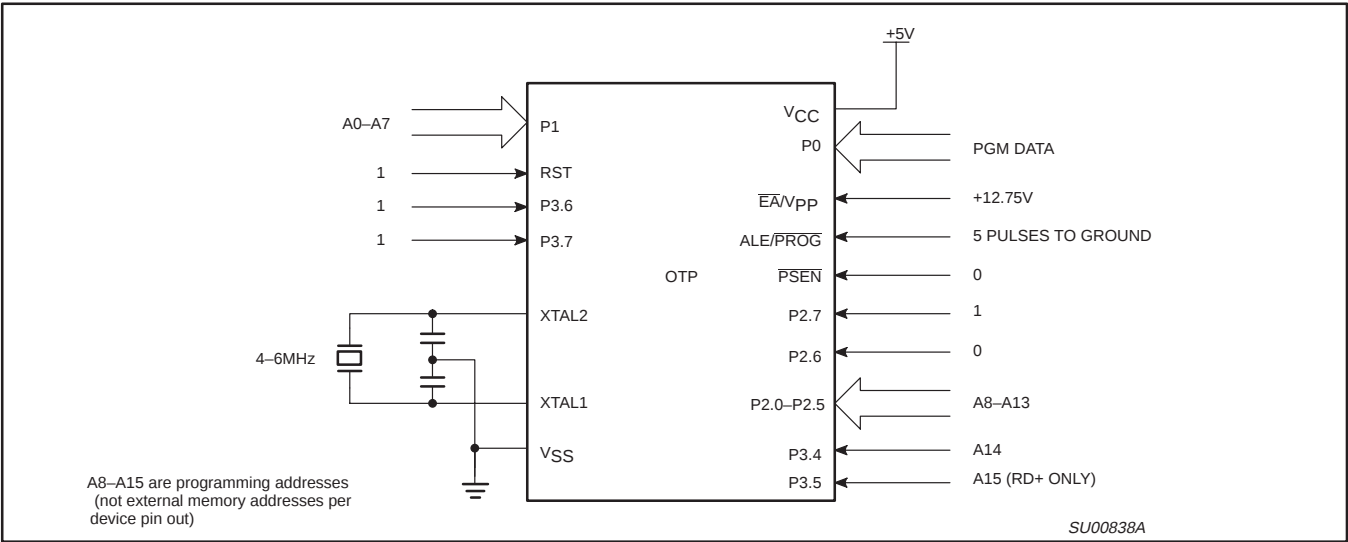
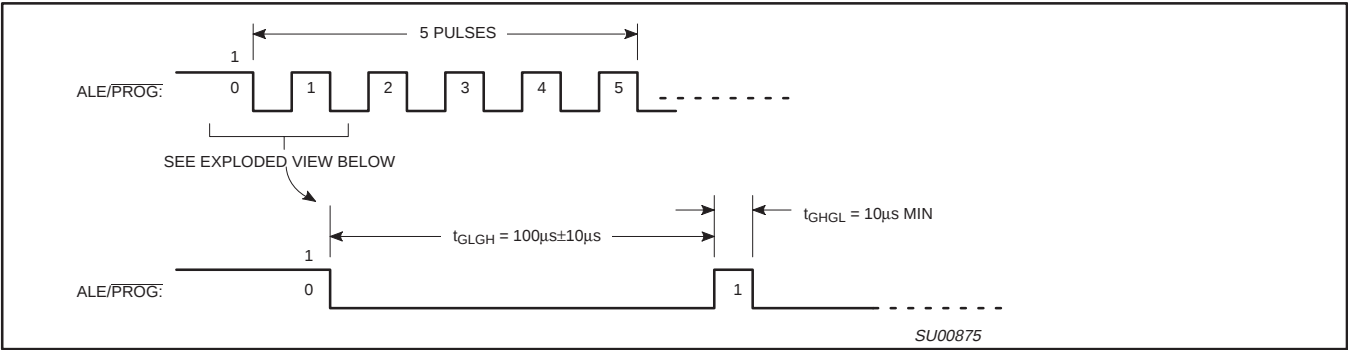
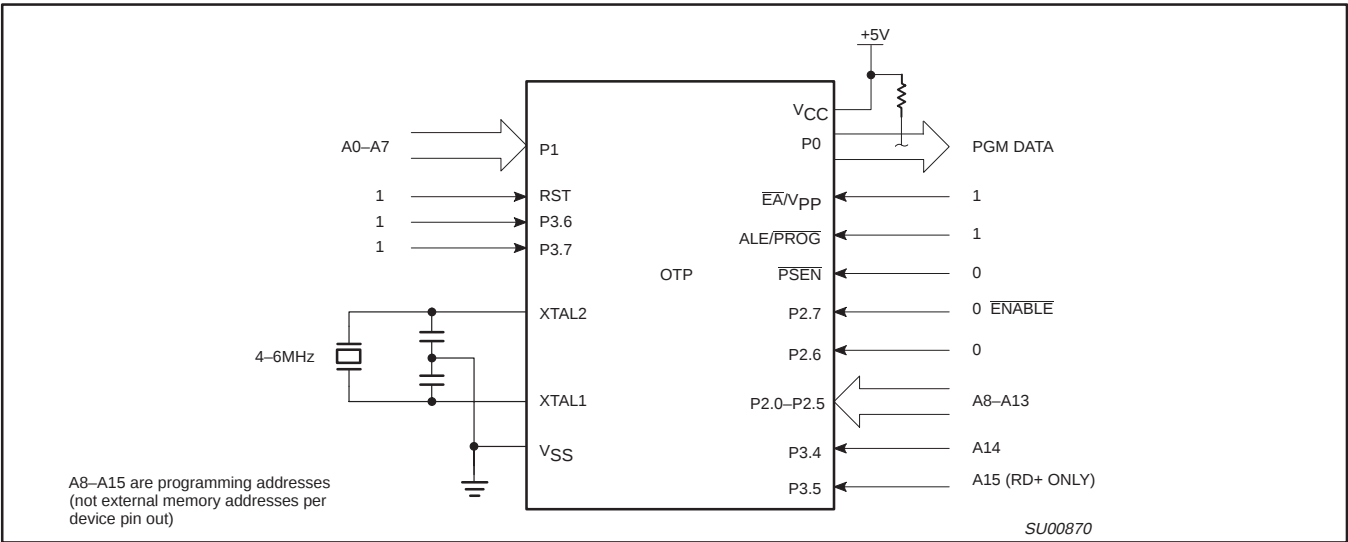

Figure 41. Programming Configuration
Figure 42. PROG Waveform
Figure 43. Program Verification
Table 9 shows the logic levels for reading the signature byte, and for programming the program memory, the encryption table, and the security bits. The circuit configuration and waveforms for quick-pulse programming are shown in Figures 41 and 42. Figure 43 shows the circuit configuration for normal program memory verification.
The setup for microcontroller quick-pulse programming is shown in Figure 41. Note that the device is running with a 4 to 6MHz oscillator. The reason the oscillator needs to be running is that the device is executing internal address and program data transfers.
The address of the EPROM location to be programmed is applied to ports 1 and 2, as shown in Figure 41. The code byte to be programmed into that location is applied to port 0. RST, $\overline{PSEN}$ and pins of ports 2 and 3 specified in Table 9 are held at the 'Program Code Data' levels indicated in Table 9. The ALE/PROG is pulsed low 5 times as shown in Figure 42.
address of the program memory locations to be read is applied to ports 1 and 2 as shown in Figure 43. The other pins are held at the 'Verify Code Data' levels indicated in Table 9. The contents of the address location will be emitted on port 0. External pull-ups are required on port 0 for this operation.
* FOR PROGRAMMING CONFIGURATION SEE FIGURE 41.
FOR VERIFICATION CONDITIONS SEE FIGURE 43.